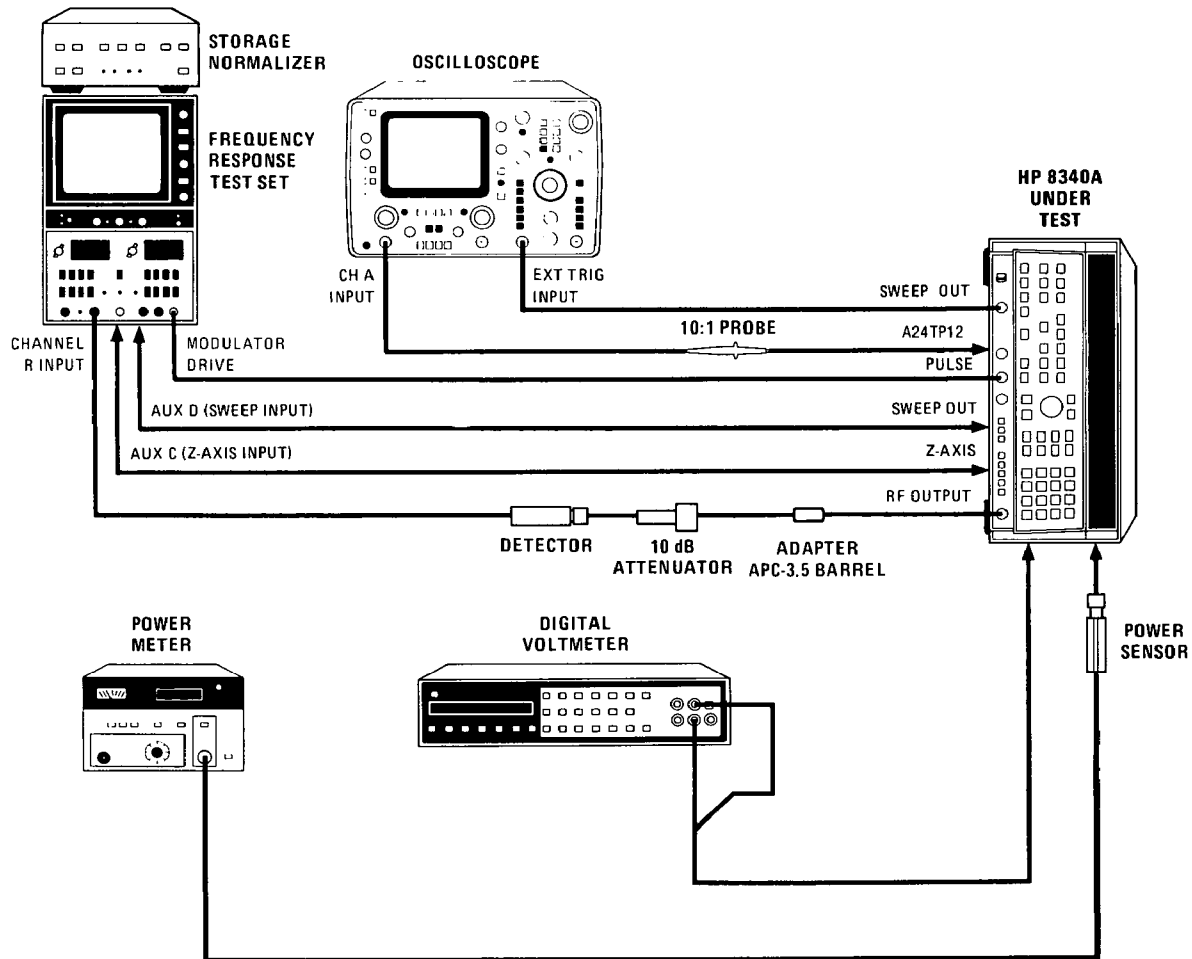

Figure 5-55. SYTM Tracking and Delay, and Leveled SRD Bias Adjustment Setup
- Connect equipment for SYTM Tracking as shown in Figure 5-55. Allow at least 30 minutes warm up.